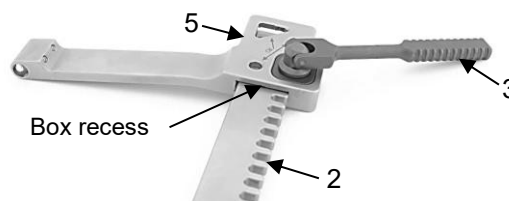

Fig. 16
Insert the toothed rack (2) into the recess in the box (5) until the pinion of the drive lever (3) engages in the toothed rack (2) (Fig. 16).